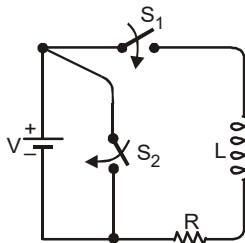

Fig.1.131: Given Circuit
Example 1.30. Consider the series $R - L$ circuit connected to a battery and a switch as shown in fig. 1.131. Switch S_1 closes at $t = 2$ second ; switch S_2 closes at $t = 5$ second. (i) Find the current $i(t)$ in the resistance R ; (ii) Plot the current $i(t)$ for $0 \leq t \leq 10$ second to the scale. Assume R/L equal to 100.
4. Consider the series $R - L$ circuit connected to a battery and a switch as shown in fig. 1.131. Switch S_1 closes at $t = 1 \text{ second}$; switch S_2 closes at $t = 2.5 \text{ second}$. (i) Find the current $i(t)$ in the resistance R ; (ii) Plot the current $i(t)$ for $0 \leq t \leq 5 \text{ second}$ to the scale. Assume R/L equal to 100 .